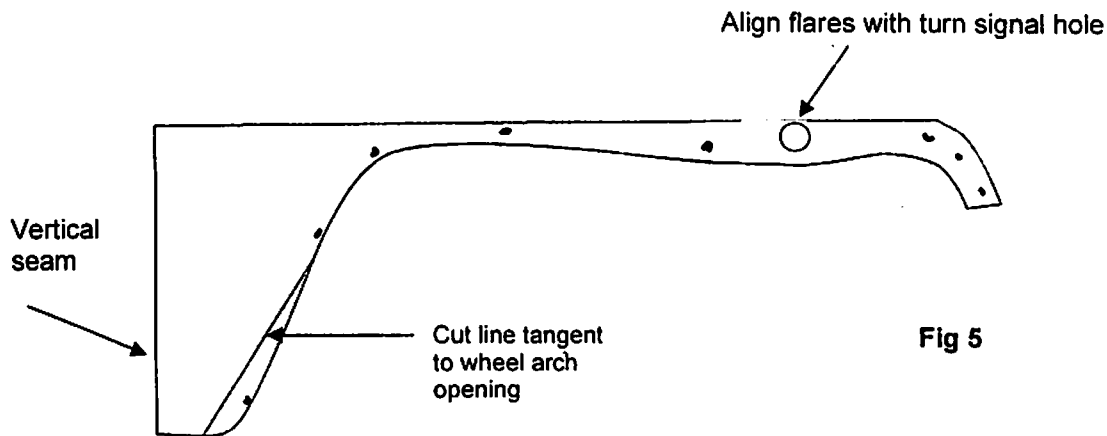

Fig 5
1. Measure 4 3/4" from the back vertical seam of the front fender towards front of vehicle and mark this position at the bottom edge of the fender. FIG 5.
2. From this measurement draw a straight line up tangent to the radius of the vehicle fender opening. Cut away metal using an air nibbler or other suitable tool. Coat this area with a rust inhibitor to prevent rusting. FIG 5